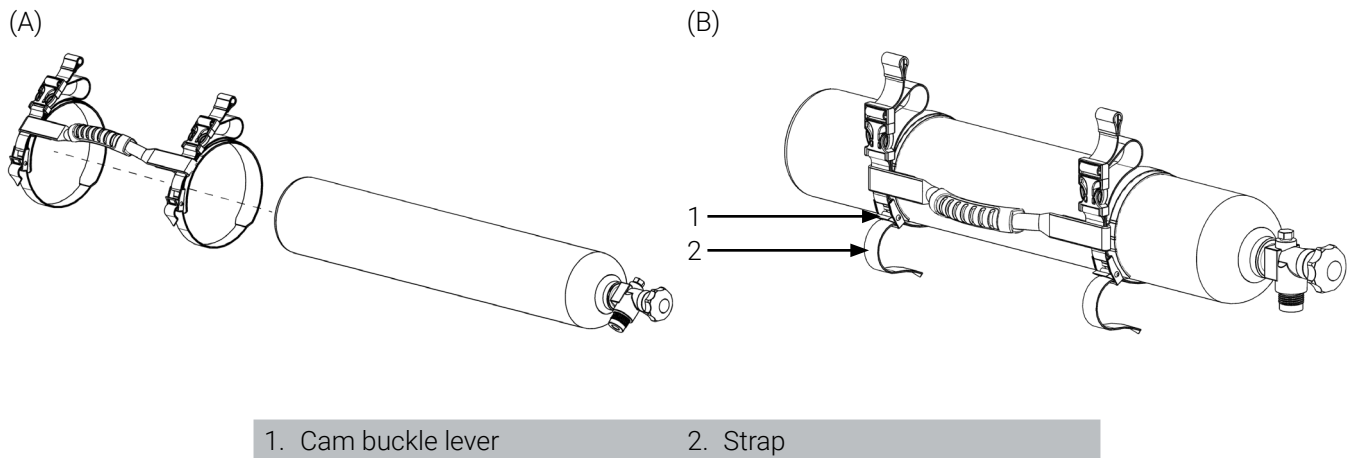

Figure 2: Installing the gas cylinder in the Techni-Harness
1. Insert the bottom-end of the gas cylinder through the loops of the harness. If needed, enlarge the loops by pressing down on the cam buckle lever and pulling on the straps to loosen (Figure 2).
2. Center the harness on the gas cylinder (Figure 2).
3. Tighten the first strap loop over the tank by pushing down on the cam buckle lever, then pulling the strap until the strap loop is tight around the gas cylinder (Figure 2).
4. Repeat with the second strap loop (Figure 2).